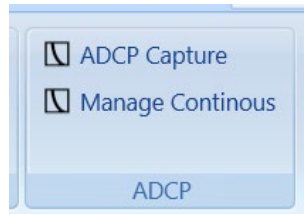
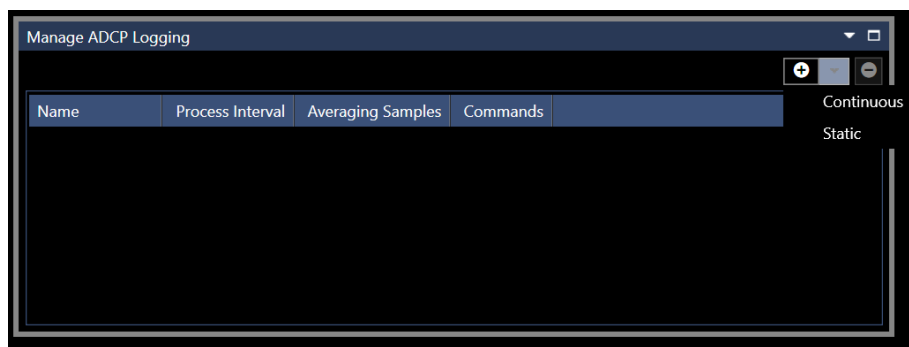
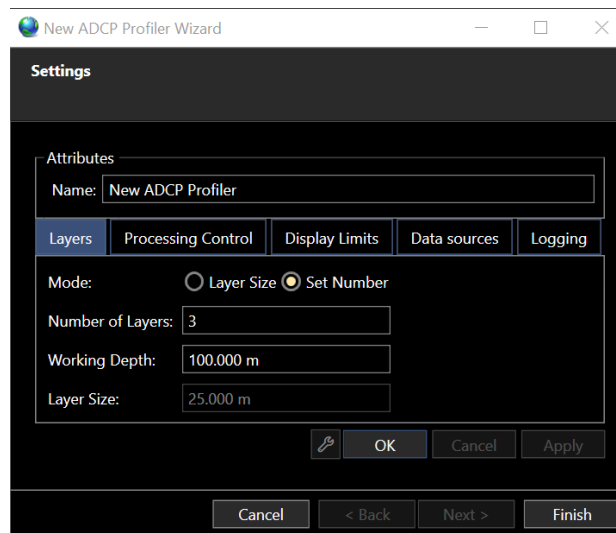
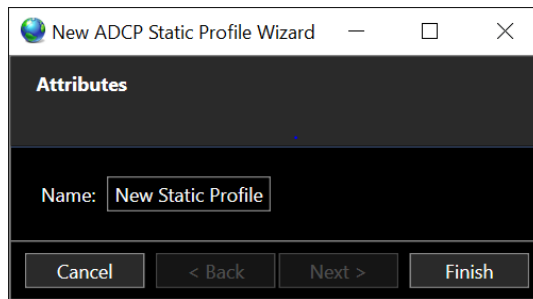

FIGURE 18-15 ADCP - SETUP RIBBON
FIGURE 18-16 MANAGE ADCP LOGGING WINDOW
FIGURE 18-17 NEW ADCP PROFILE WIZARD - SETTINGS
FIGURE 18-23 STATIC PROFILE - ATTRIBUTES
To log ADCP profiles to a file select the “Manage Continuous” button from the Setup ribbon, ADCP section, see Figure 18-15. This opens the Manage ADCP Logging window, see Figure 18-16
To add a continuous profile select the **Continuous** option from the drop-down list of options, see Figure 18-16. This opens New ADCP Profiler Wizard window where all settings for the profile can be configured, as shown in Figure 18-17.
- b. **Layers Tab** (see Figure 18-17)
To add a Static profile to the Manage ADCP Logging list, select the Static option from the drop-down list of options, see Figure 18-16. This opens New ADCP Static Profile Wizard window, **Attributes**, as shown in Figure 18-23